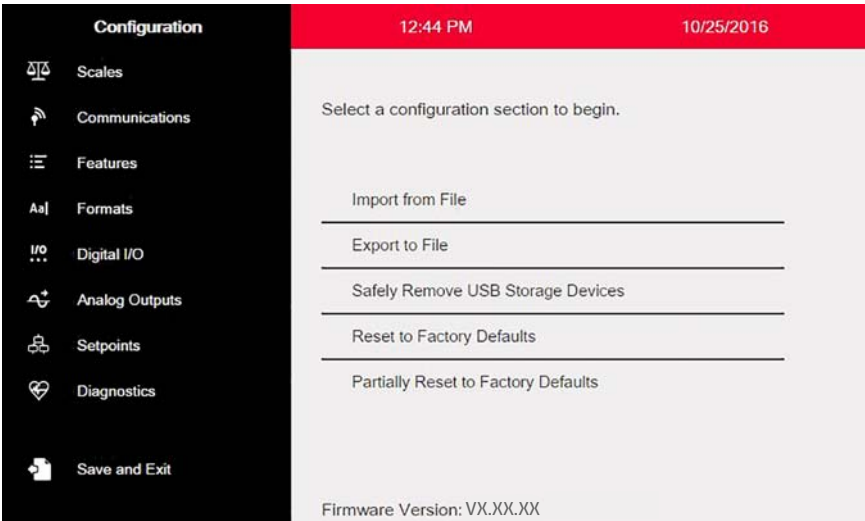
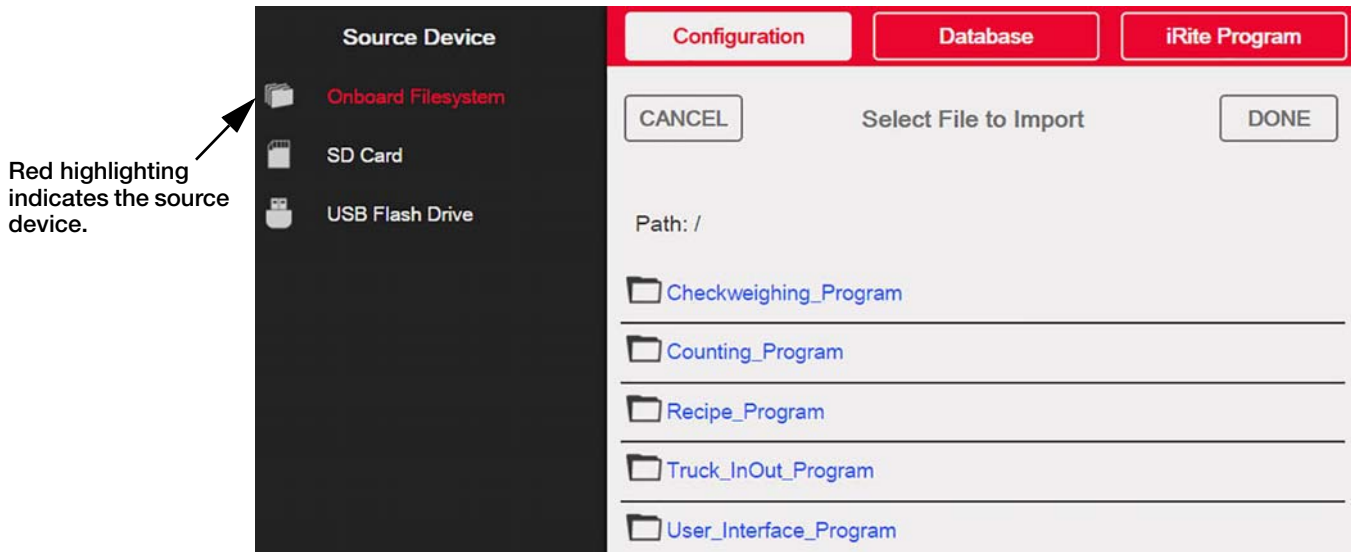

Figure 13-1. Configuration Main Menu
Figure 13-2. Import Configuration
Note The Import Configuration screen looks the same whether importing from an onboard filesystem, a micro SD card or a flash drive. The only difference is that the source device will be highlighted in red on the left side of the screen. For an example, in Figure 13-2, a file is being imported from an onboard filesystem.
2. Press *Import from File*. See Figure 13-1. The Import Screen (Figure 13-2) will display. Load both the .rev and .cod files to use the built-in application programs.
4. Select *Import from File* (see Figure 13-1). The Import Screen (Figure 13-2) will display.
2. Press *Import from File*, see Figure 13-1. The Import Screen (Figure 13-2) will display.
2. Press *Import from File* from above diagram, see Figure 13-1. The Import Screen (Figure 13-2) will display.